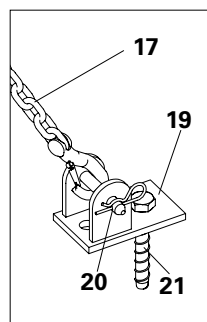

Fig. A10.05
1. Mount RS base plate (**19**) on the existing construction with the PERI anchor bolt 14/20 x 130 (**21**). Bracing angle 60°. (Fig. A10.05)
2. Attach the 3.0 kN anchor chain (**17**) to the 3.0 kN turnbuckle (**18**) and attach the 3.0 kN turnbuckle (**18**) to the RS base plate. (Fig. A10.05)
3. Tighten the turnbuckle (**18**) until the anchor chain is taut using pins and cotter pins (**20**). (Fig. A10.05)